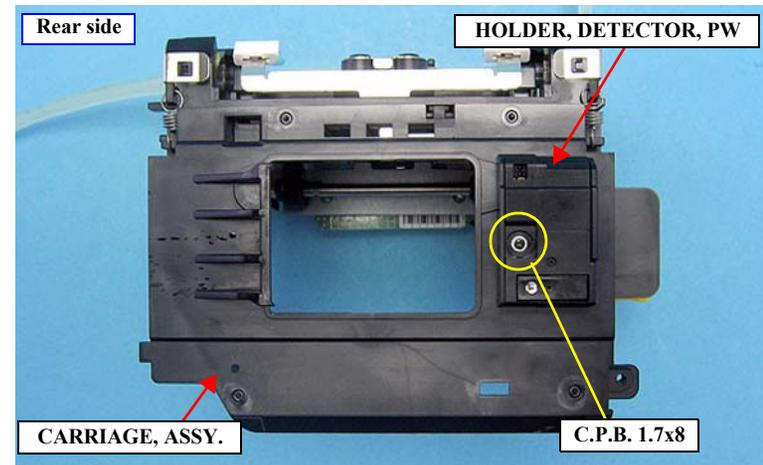

Figure 4-142. Removing the HOLDER, DETECTOR, PW
2. From the rear side of the CARRIAGE, ASSY., remove the screw that secures the HOLDER, DETECTOR, PW. See Figure 4-142.